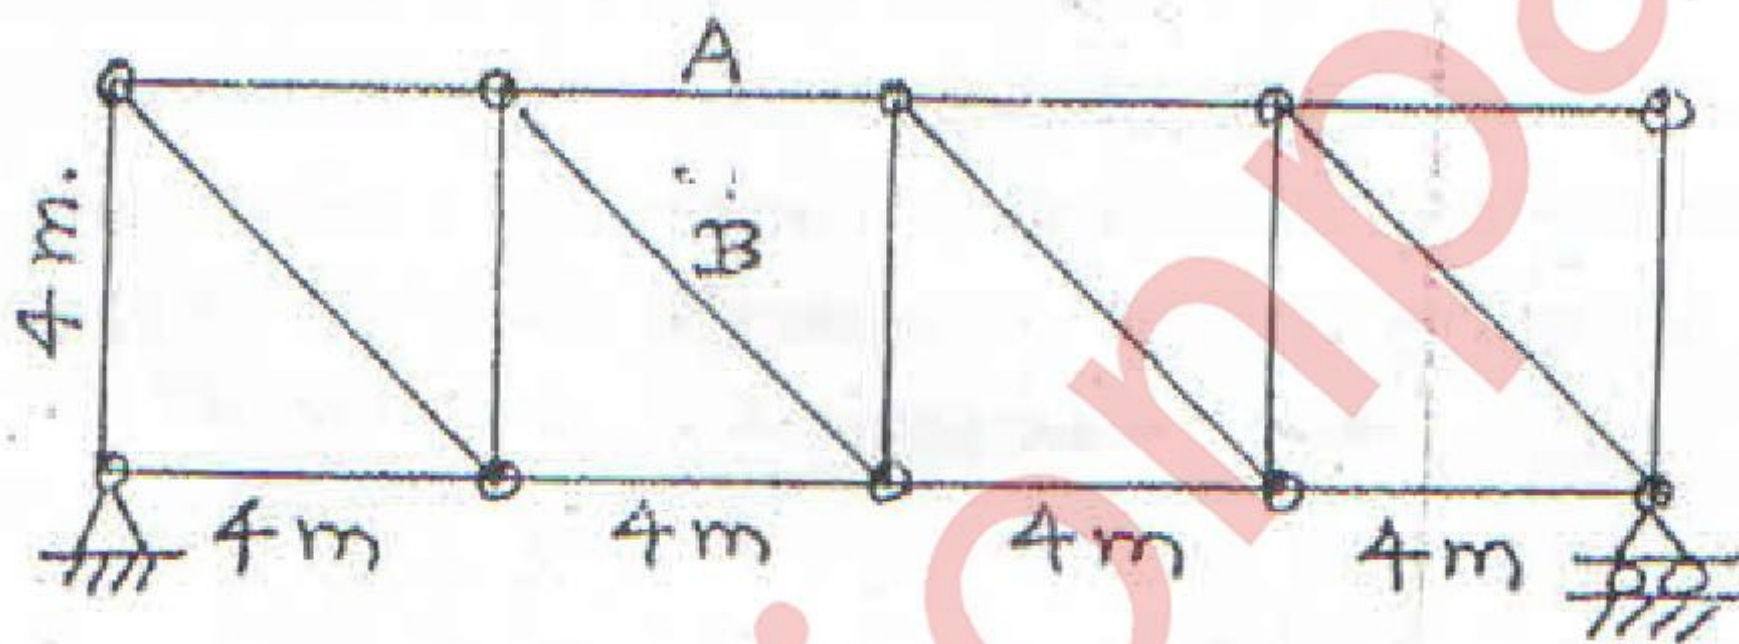

Fig. 9
- (b) Draw the Influence Line Diagrams for the forces in members A & B for the pin-jointed plane truss (Fig.9). 8